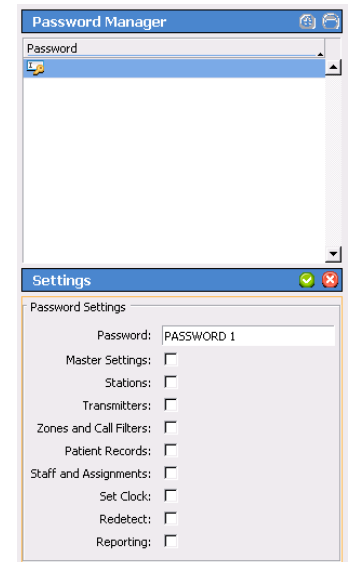

Figure 40: Password Manager
2. In the **Password Manager** page shown in Figure 40, select the blank default password and click the Edit button.